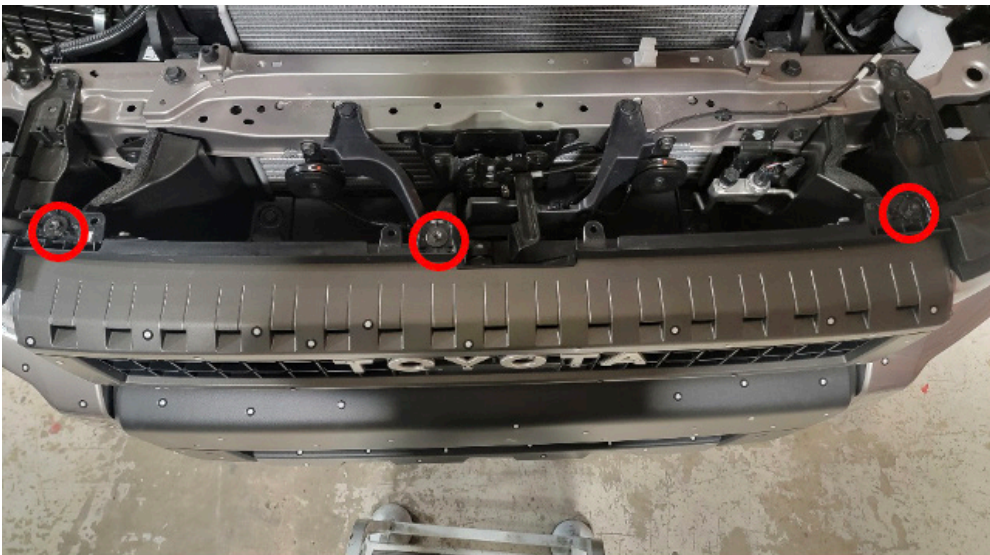

Figure 2.
2. Remove the 3x 10mm bolts holding the top of the grill to the radiator support. Figure 2.